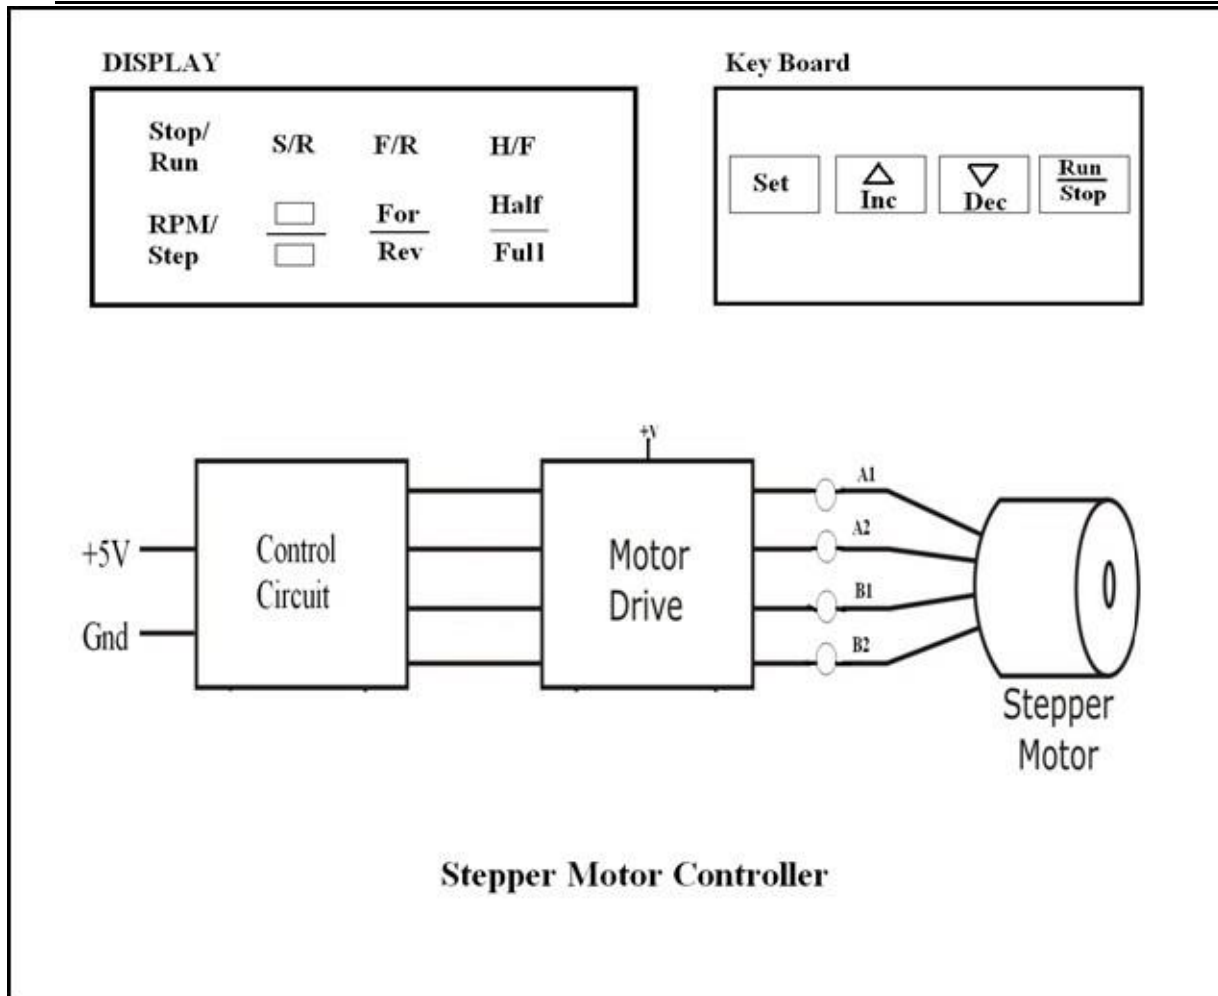

Fig 11.1
1. Connections are made as shown in Fig 11.1.
8. Connection are made as shown in Fig 11.1.